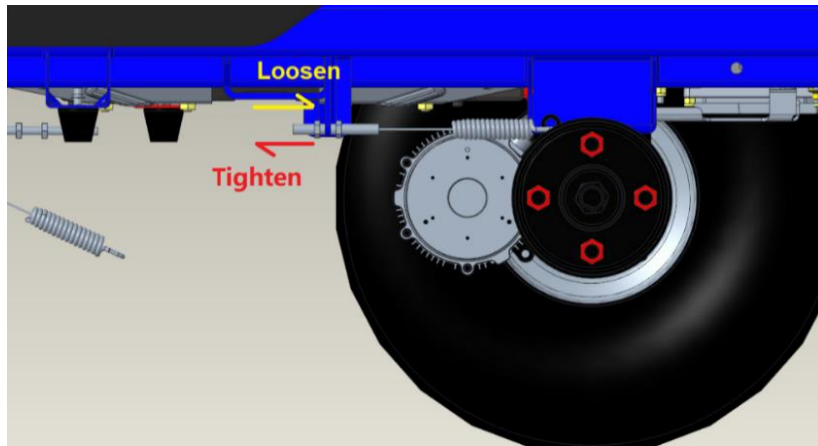
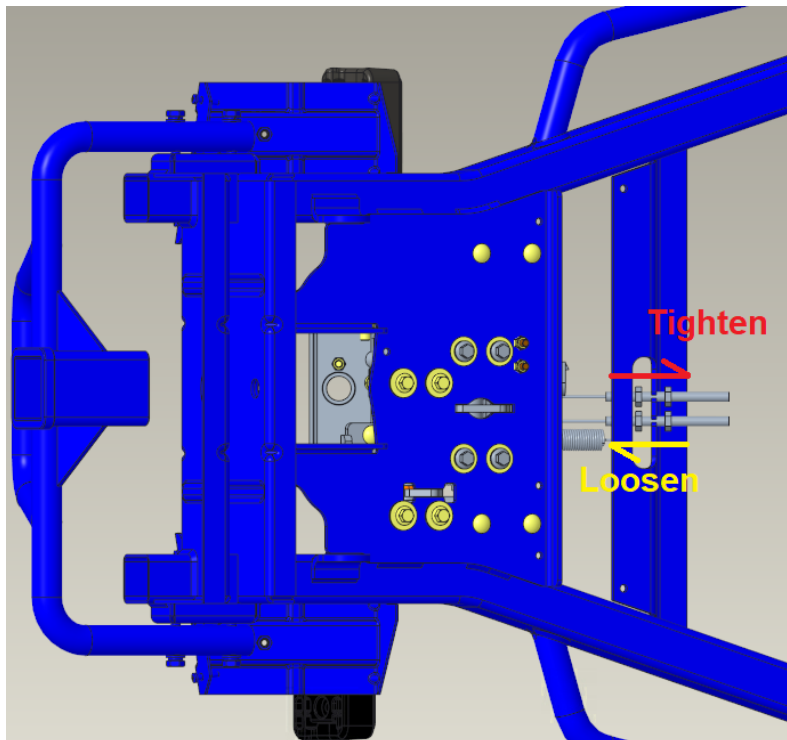

Fig. 8
Fig. 9
2. As direction shown in Fig. 8, use a 14 mm open-end wrench to rotate the nut behind the brake cable backwards for a distance of 2 mm and pull the cable forwards for a distance of 2 mm.
4. If there is no adjusting stroke available for the cable thread as shown in Fig. 8, alternatively adjust as direction shown in Fig. 9.